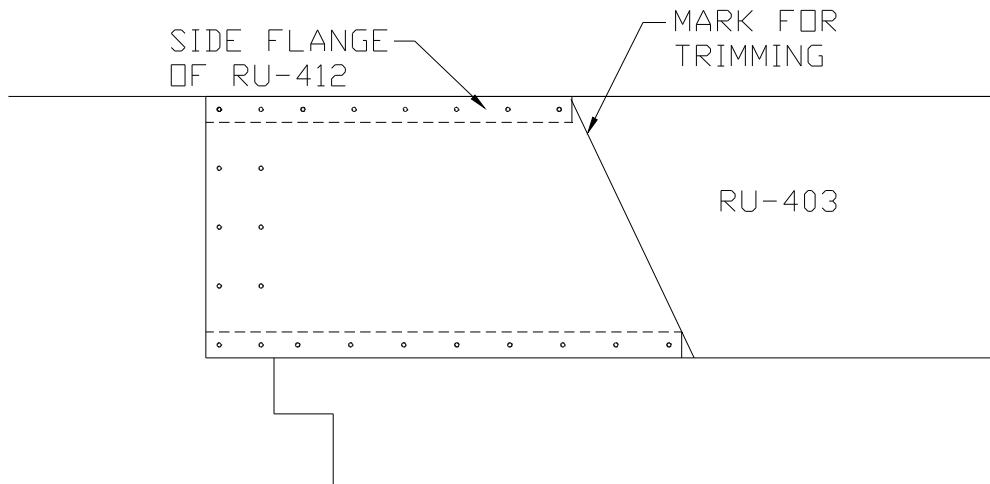

Figure 4.3.4
- 6) Remove the skin. Cleco it back in place overlapping the Rudder Skin this time. Drill #40 holes through the rivet line behind the spar using the skin as a guide. Mark the skin for trimming and remove and trim. **NOTE:** Trim the skin flush with the end of the side flanges on RU0412 and RU0413, not the end of the ribs. Make sure there is 5/16" clearance from the last two outboard rivet holes. Figure 4.3.4.